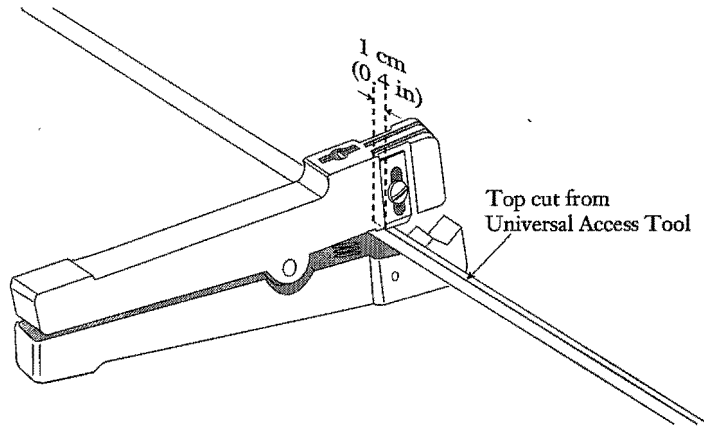

Figure 17
7.9 Use a buffer tube cutting tool to ring cut the tube 1 cm (0.4 in) inside of the cuts made by the access tool on both ends of the tube (Figure 17).